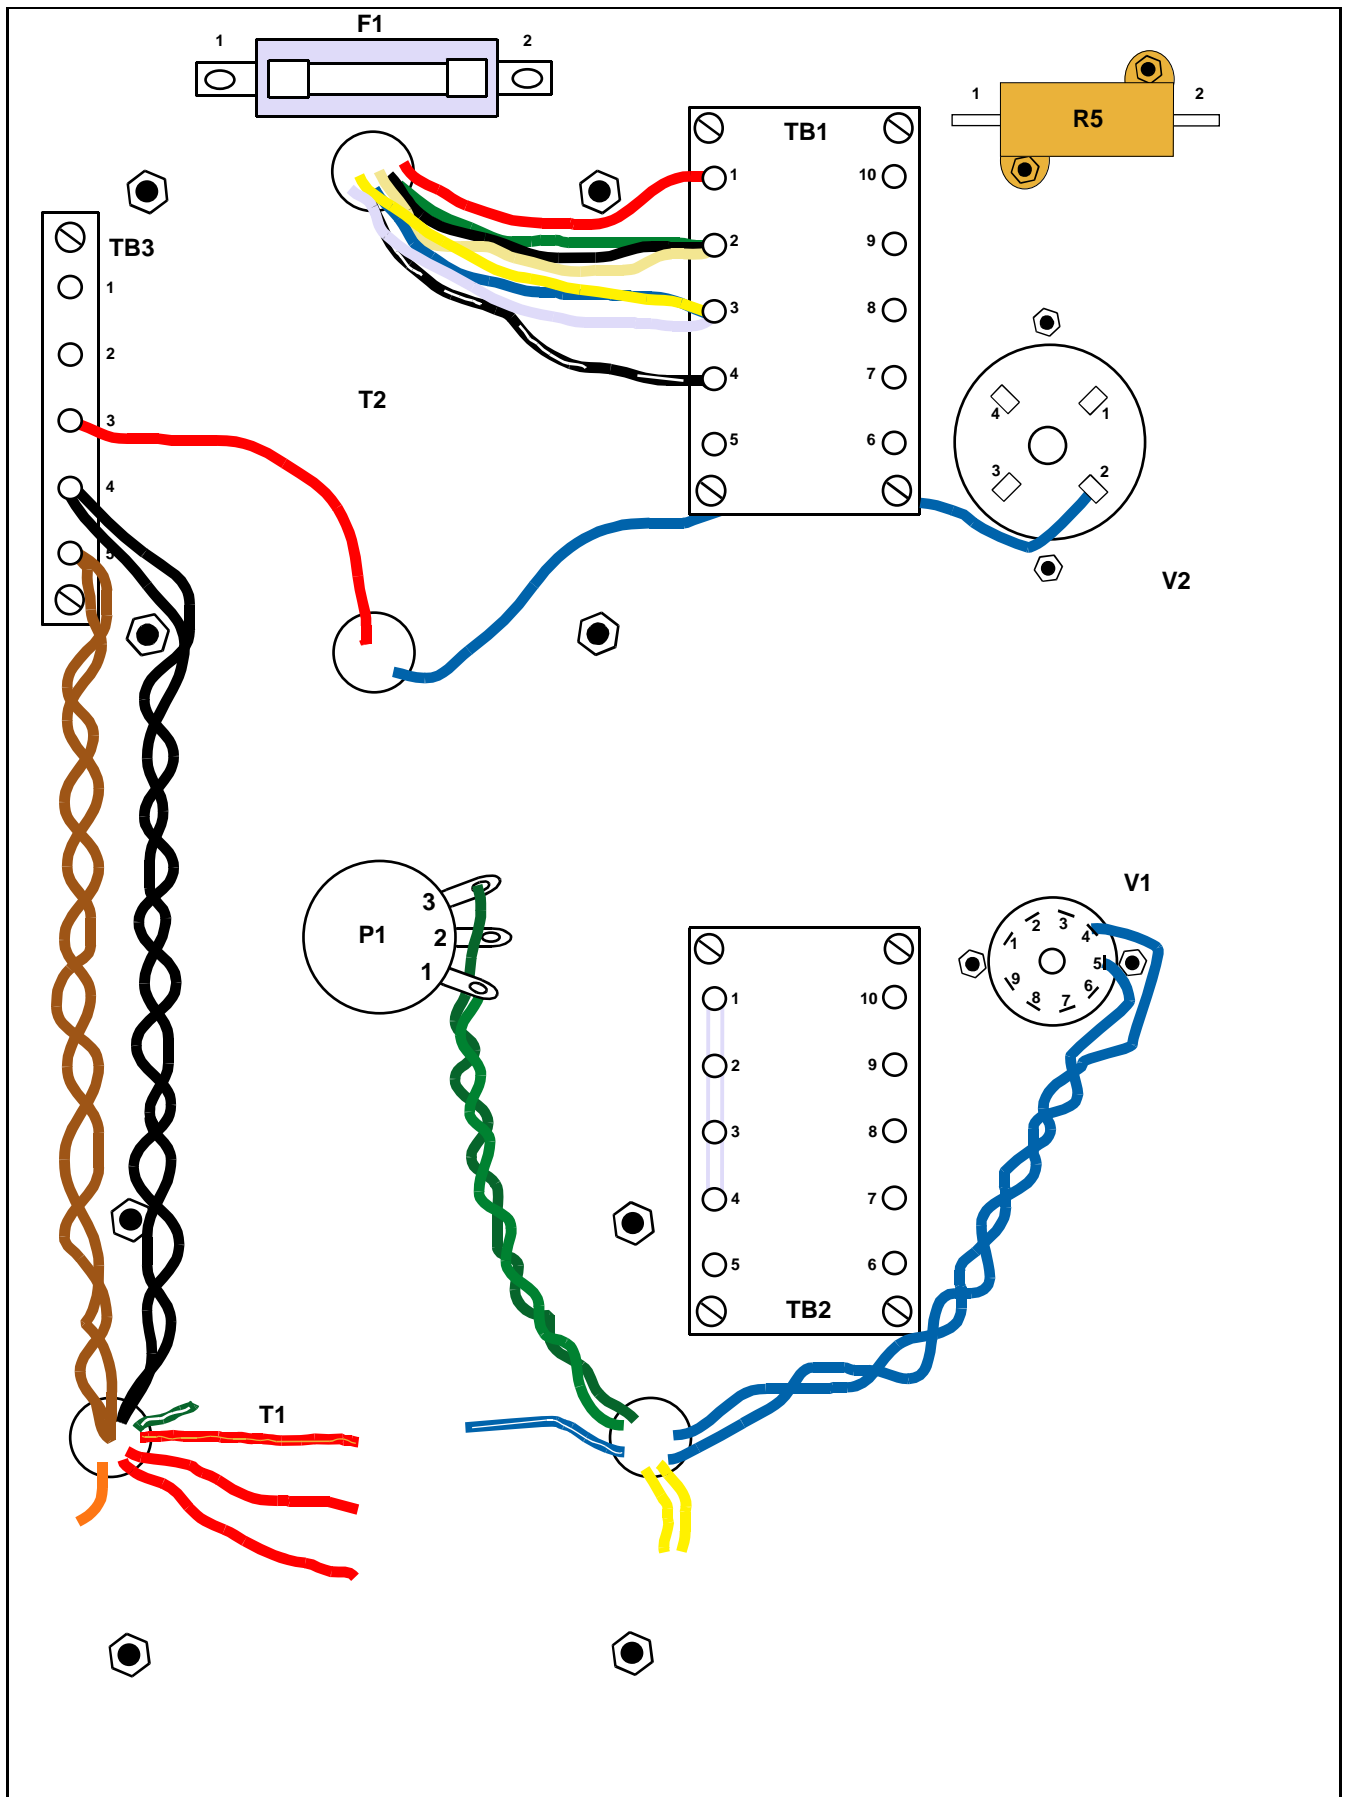

Figure 3
2) Mount the output transformer T2 and the power transformer T1 using the supplied hardware. It is generally easiest to do this by laying the chassis on a flat surface and feeding the transformer wires down through their respective holes. Referring to figure 3 and identifying the location of the transformer lead colors will give you an indication of which direction to orient the transformers when mounting them onto the top plate. **Be careful not to scratch the plate surface with the transformer edges or your tools.** Secure the transformers to the chassis using the button head screws, brass washers and brass nuts supplied in the plastic bag marked “H/W1”.
There are two blue leads from transformer T1. Twist these two leads together using approximately 2 twists per inch, route them as shown in figure 3, and solder one blue lead to V1-4 and the other lead to V1-5.
There are two green leads from transformer T1. Twist these two leads together using approximately 2 twists per inch, route as shown in figure 3, and solder one green lead to P1-1 and the other lead to P1-3.
4) Connect the T1 transformer primary leads based upon your ac voltage requirements. Refer to figure 3 and the instructions below (figure 3 depicts a 120Vac connection).
Refer to the table below for the output transformer coding. The output impedances are selected by interconnecting the eight color coded **secondary** leads as shown below. Figure 3 depicts the connection for 8 ohms, however the terminals of TB1 can be used for connecting any of the configurations below. If you decide to shorten the output leads of the transformer T2, the red enamel coating on the wires must be removed before soldering to the terminals. This can be easily done by scraping with a razor blade.
Locate the bare uninsulated silver wire. Wrap a piece of the wire tightly around terminals TB2-1, TB2-2, TB2-3 and TB2-4 as shown in figure 3. Now make a solder connection between each of the terminals and the wires.